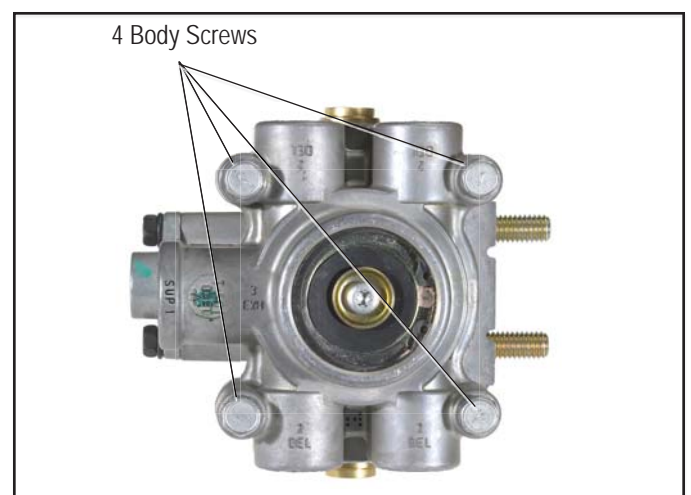

Figure 7 - BOTTOM VIEW OF SR-7™ VALVE
1. Using a 7/16" wrench remove the four screws that secure the upper and lower bodies of the SR-7™ valve. Refer to Figure 7. Do not disconnect additional hoses or fittings. The separation of the SR-7™ valve between